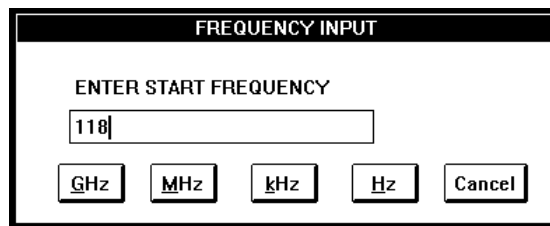

Figure 5-4: Typical Frequency Input Dialog Box
1. Click on **Frequency** on the **Spectrum Analyzer Menu Bar** and from the dropdown menu select **Start Frequency** to open the **Frequency Input** dialog box (Figure 5-4).